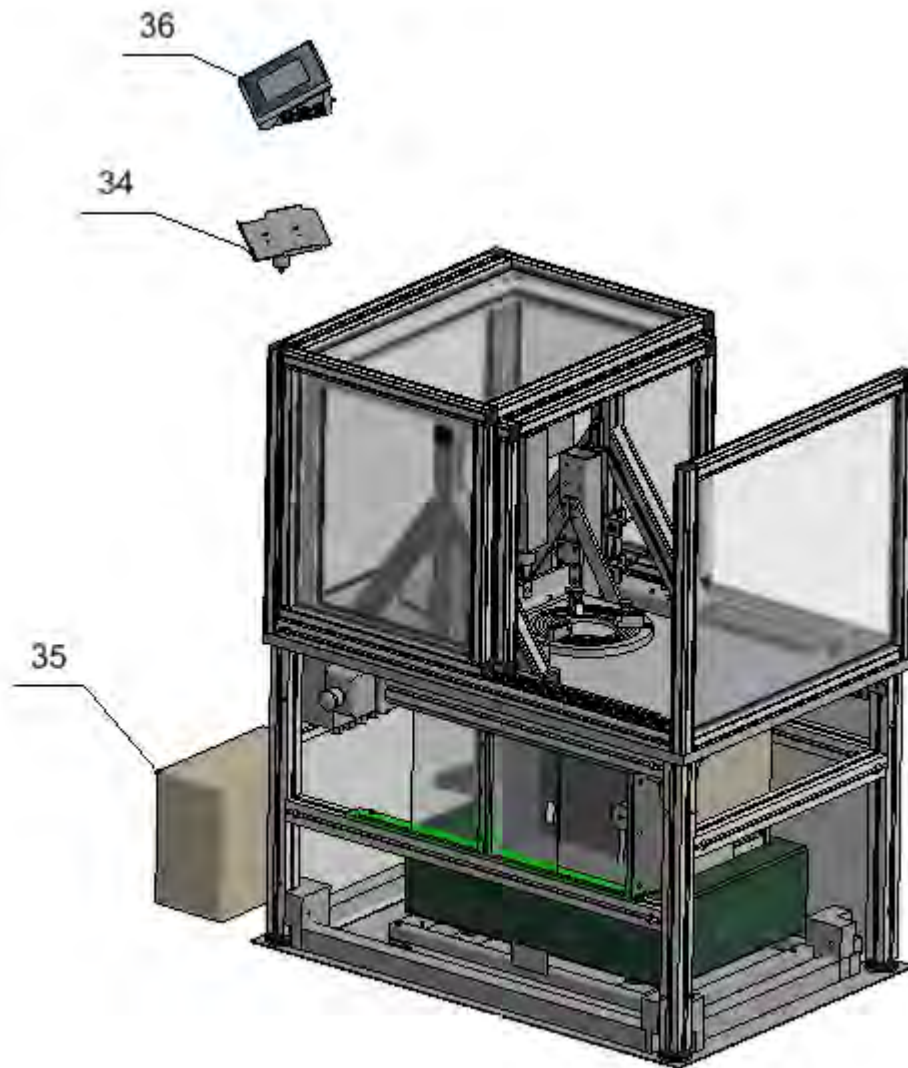

Fig.14
26. Mount indicator holder assembly (34). (Fig. 14)
27. Connect controller (35) together with an indicator (36) (touch panel). (Fig. 14)